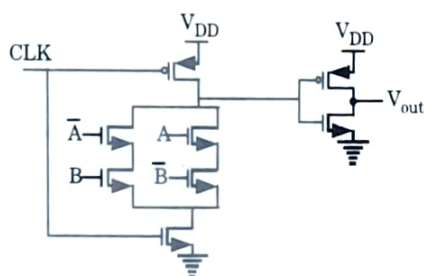

Fig. 3.12.1.
- C. **2 input EXOR logic gate using domino logic gate :** The 2 input EXOR logic gate is shown in Fig. 3.12.1.